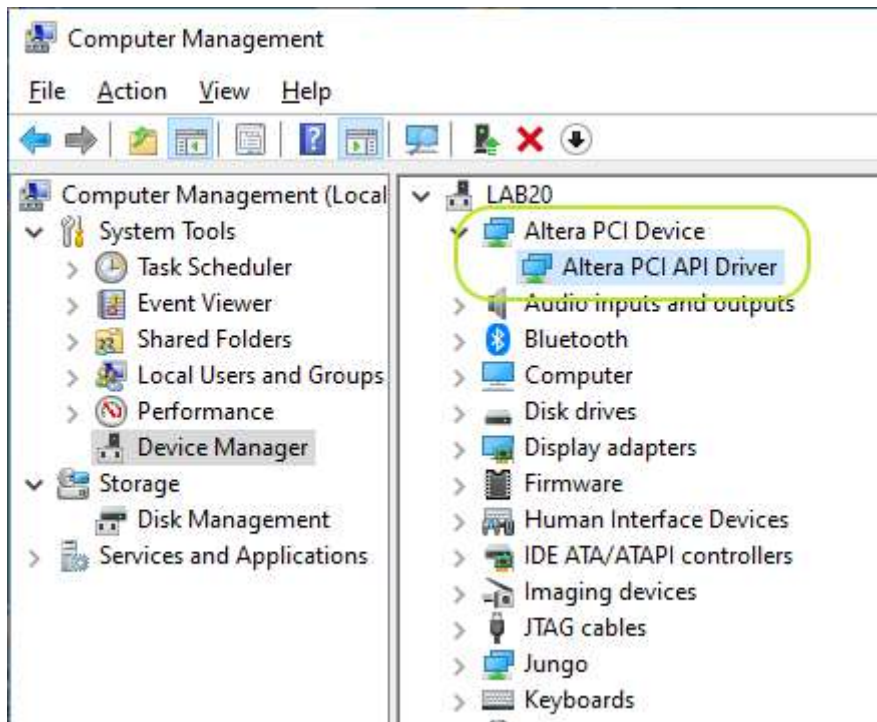

Figure 7-10 Screenshot for PCIe Driver
5. Make sure that Windows has detected the FPGA Board by checking the Windows Device Manager as shown in **Figure 7-10**.